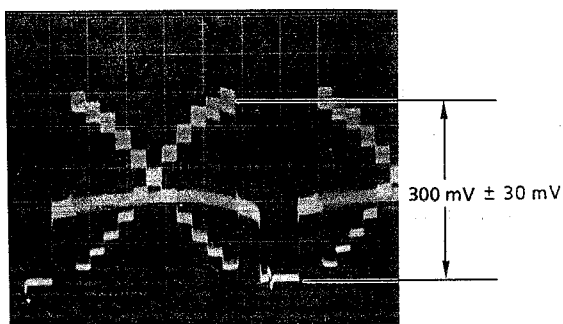

Fig. 4-4
- Adjust data by **ARROW** keys so that signal level becomes  $300\text{ mV} \pm 30\text{ mV}$  as shown in Fig. 4-4.